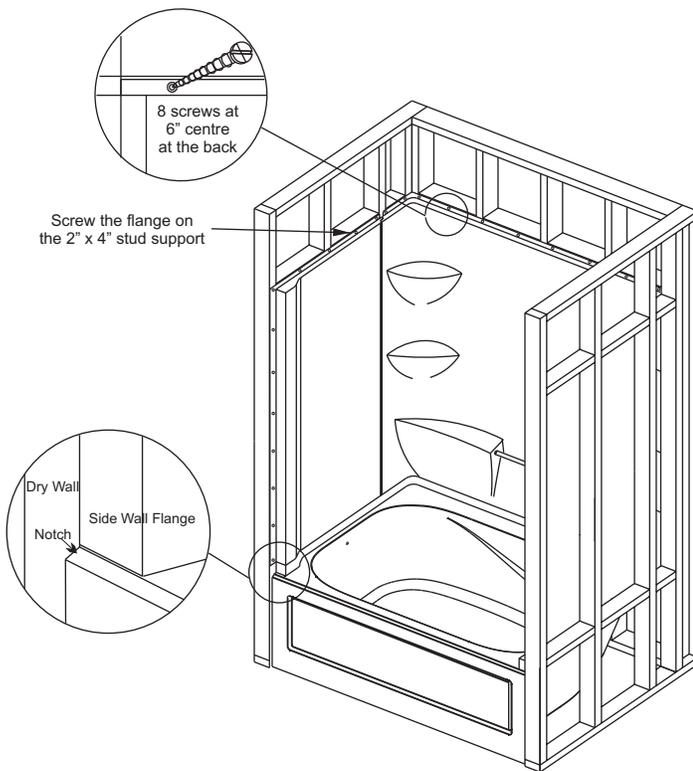

FIGURE 6
- See figure 6 bottom detail for a notch to be made while installing drywall.